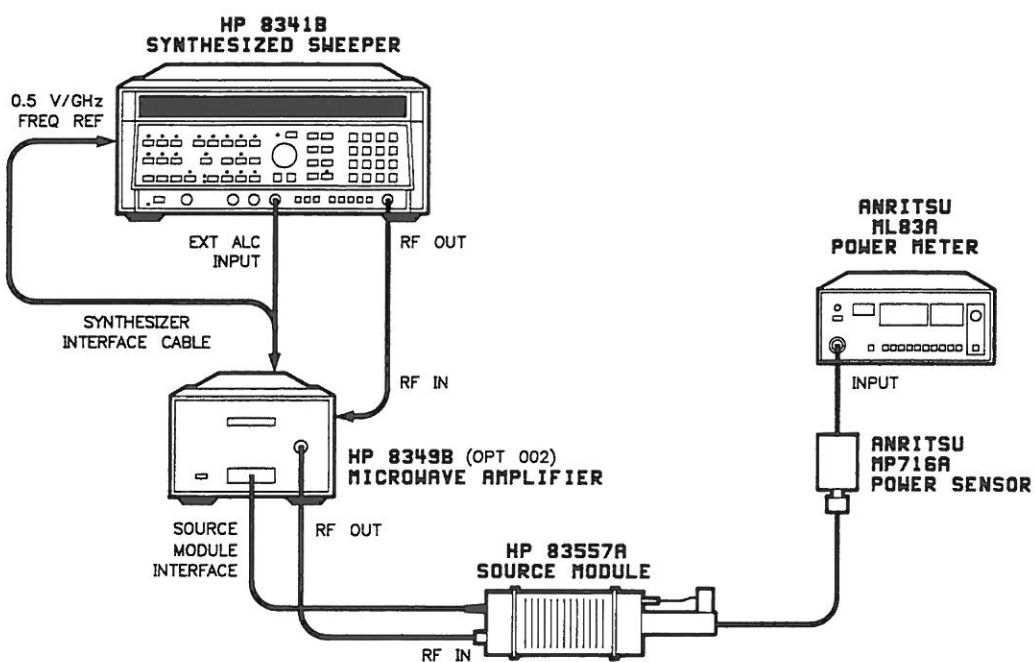

Figure 2c-3. System Configuration
1. Connect the equipment as shown in Figure 2c-3. Do not connect the power sensor to the HP 83557A output.